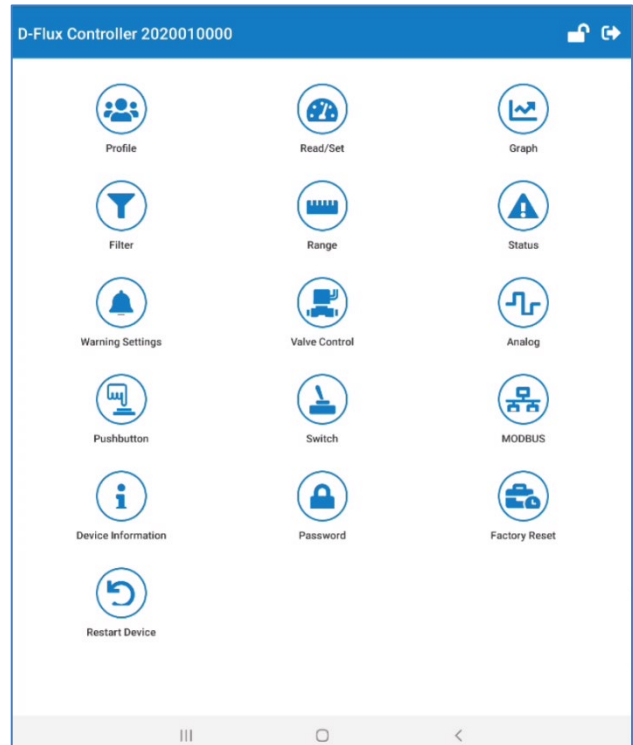

Figure 31 Home screen for advanced
1. Install the program on your telephone and open the program. You see this screen on the right (Fig 31).